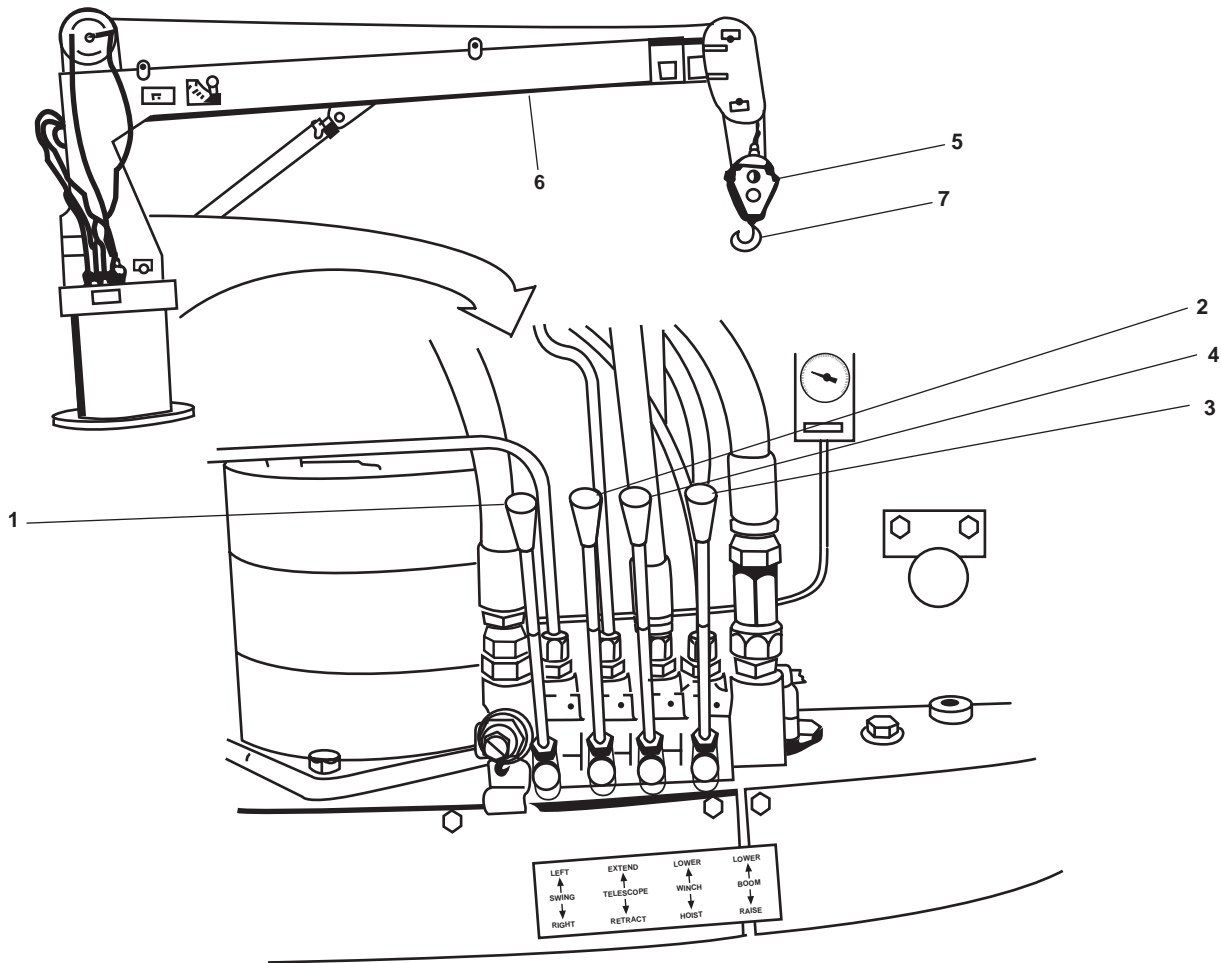
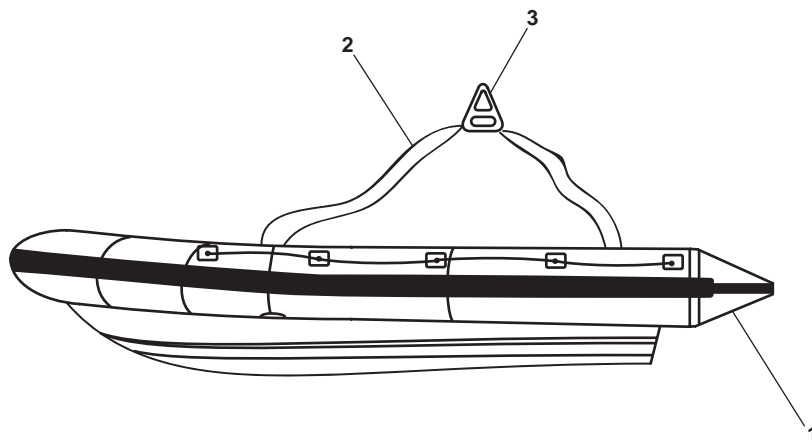

Figure 32. Crane Controls
Figure 33. Workboat
3. Movement of the crane controls (figure 32, items 1 through 4) produces a corresponding movement in the crane's block (figure 32, item 5) or boom (figure 32, item 6).
- a. To swing the crane to the right, pull the SWING control handle (figure 32, item 1) toward the operator. To swing the crane to the left, push the SWING control handle away from the operator.
- b. To extend the boom (figure 32, item 6), push the TELESCOPE control handle (figure 32, item 2) away from the operator. To retract the boom, pull the TELESCOPE control handle toward the operator.
- c. To move the boom (figure 32, item 6) down, push the BOOM control handle (figure 32, item 3) away from the operator. To move the boom up, pull the BOOM control handle toward the operator.
- d. To raise the block (figure 32, item 5), pull the WINCH control handle (figure 32, item 4) toward the operator. To lower the block, push the WINCH control handle away from the operator.
1. Operate the crane as necessary to position the hook (figure 32, item 7) over the workboat (figure 33, item 1).
2. Attach the lifting sling (figure 33, item 2) securely to the lift points.
3. Attach the hook (figure 32, item 7) to the lifting sling ring (figure 33, item 3).
4. Remove the tie down straps securing the workboat (figure 33, item 1) to the deck cradle.
6. Once the workboat (figure 33, item 1) is in the water, have personnel man the workboat and disconnect the hook (figure 32, item 7) from the lifting sling ring (figure 33, item 3).
7. Disconnect the lifting sling (figure 33, item 2) from the workboat (figure 33, item 1)
1. Attach the lifting sling (figure 33, item 2) securely to the lift points in the workboat (figure 33, item 1).
2. Operate the crane as necessary to position the hook (figure 32, item 7) over the workboat (figure 33, item 1).
4. Instruct personnel to disembark from the workboat (figure 33, item 1).
5. Operate the crane as necessary to raise the workboat (figure 33, item 1) from the water and move it to the deck cradle.
6. Secure the workboat (figure 33, item 1) in place with the tie down straps.
7. Disconnect the hook (figure 32, item 7) from the sling lifting ring (figure 33, item 2).